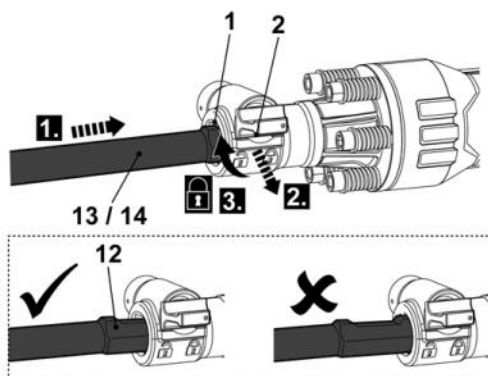

Fig. 2
- > Insert a chisel (13, 14) all the way to the stop into the chuck (1) with the gap in tool shank (12) on the top (Fig. 2, step 1).
- > Pull and turn the locking bolt (2) by 180° to lock the chisel (13, 14) (Fig. 2, step 2, 3).